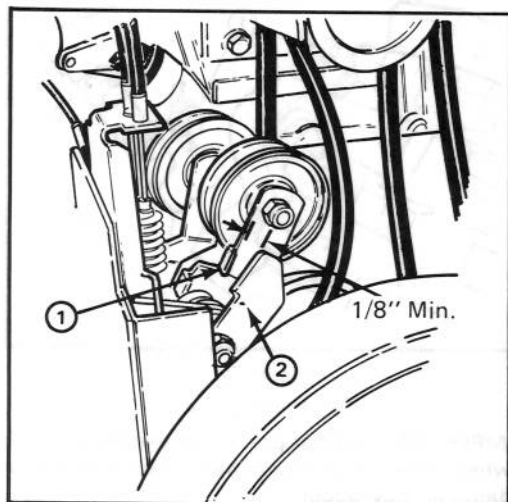

Figure 23
1. Remove (3) flange head capscrews securing belt cover to engine frame and slide belt cover up cables.
2. Check idler and brake adjustment. There should be a minimum clearance of 1/8" between tab on impeller idler arm and brake arm (Fig. 23). If there is less than 1/8" clearance, belt must be replaced.